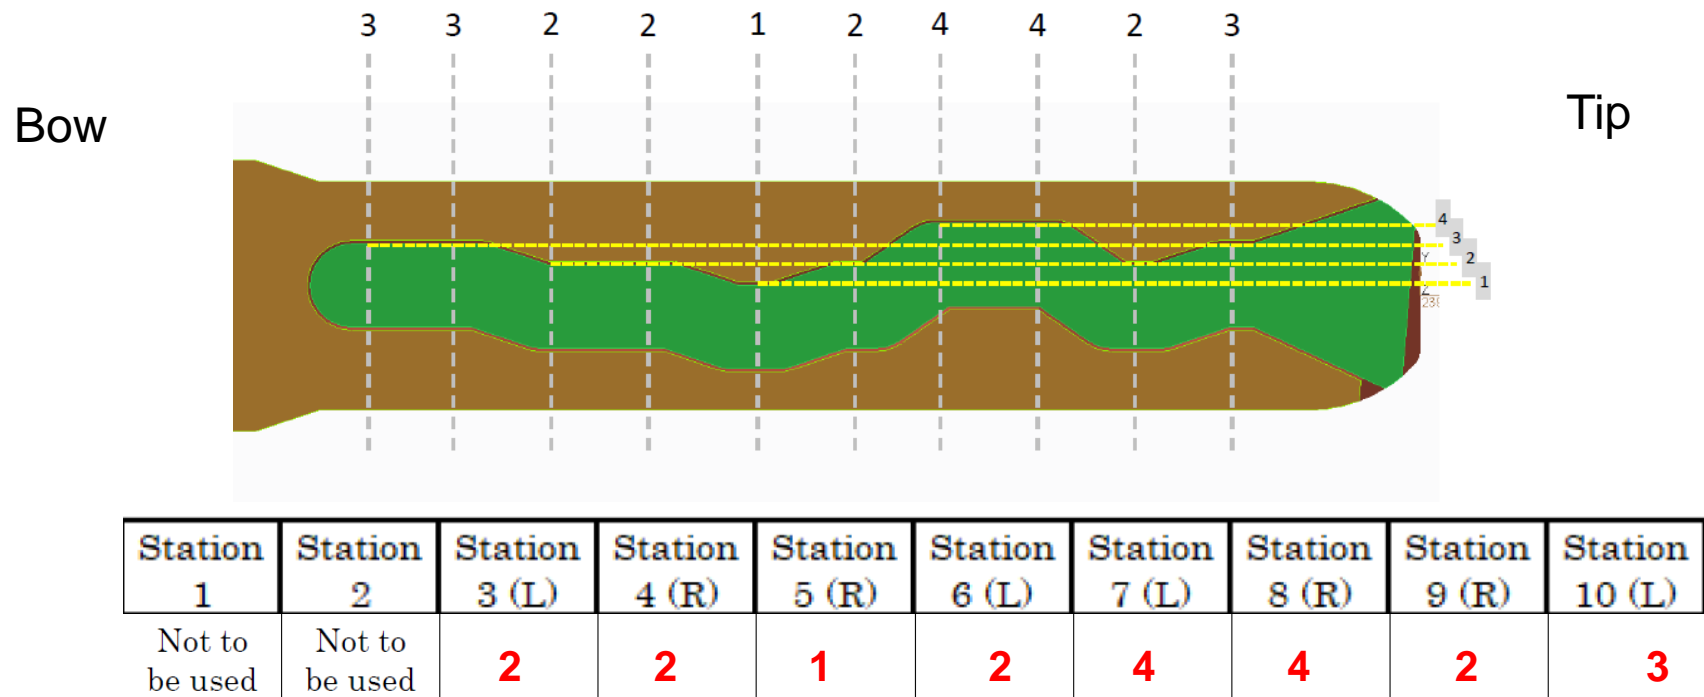

Figure 1
- 4) See example in next slide Figure 1 for the exercise